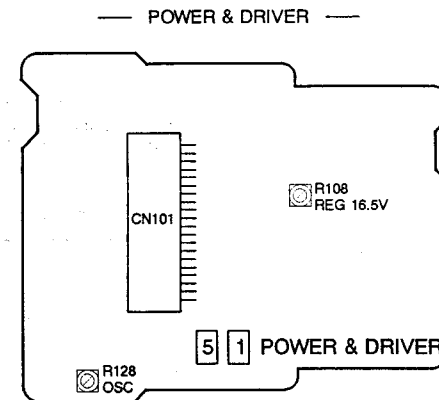

Fig. 3-2-1 Adjustment element location for POWER & DRIVER board
2) Adjust R128 so that DC level of "A" (between the waveform center and GND, see Fig. 3-2-1) of a waveform becomes 2.7 V DC.